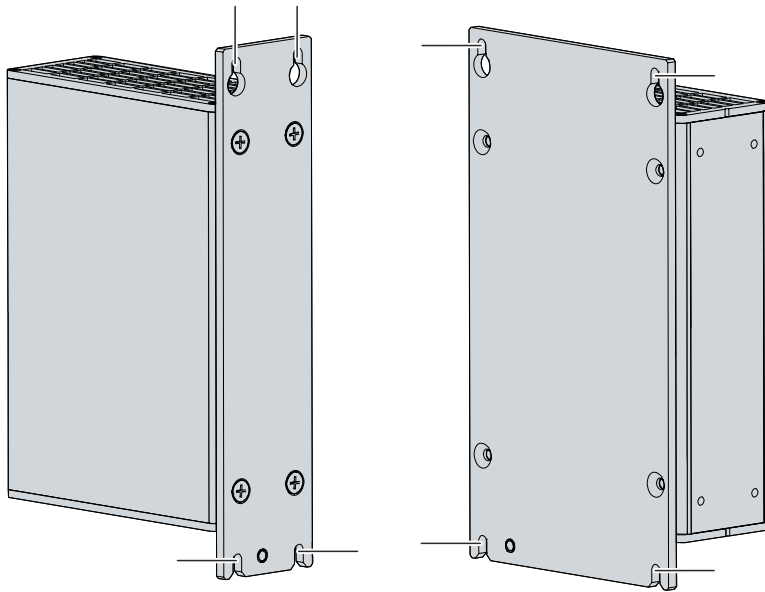

Fig. 16: Dismantling the control cabinet
2. Lift the PC far enough so that the fastening screws slip into the keyholes (see fig. 16).